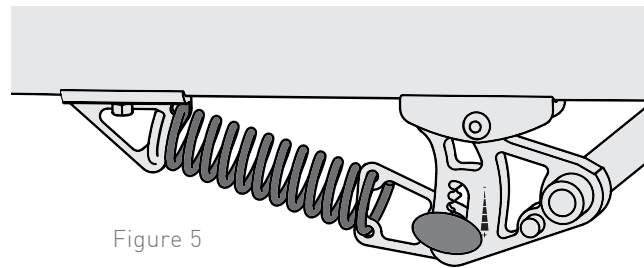

Figure 5
1. There are 5 adjustment set points (Figure 5). Rotate adjustment knob to set suspension. Top position is for lightest loads, bottom position for heaviest loads. Trailer should be used with left and right suspension set the same.